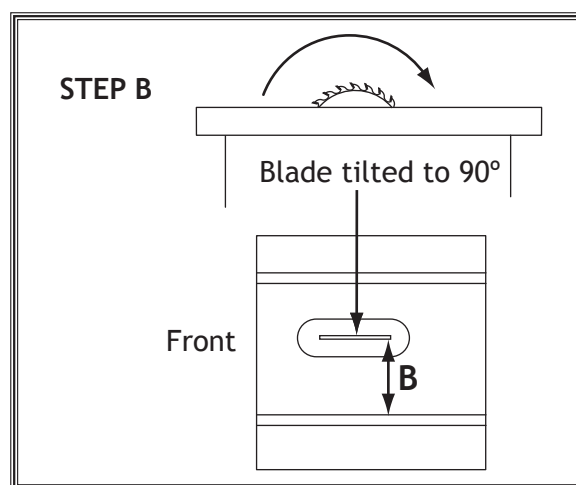

Figure 94. Making the second slot-to-blade measurement at 90°.
5. Slide the adjustable square down to the other end of the table insert, and compare the distance from the marked blade tip to the end of the adjustable square, as shown in **Figure 94**.